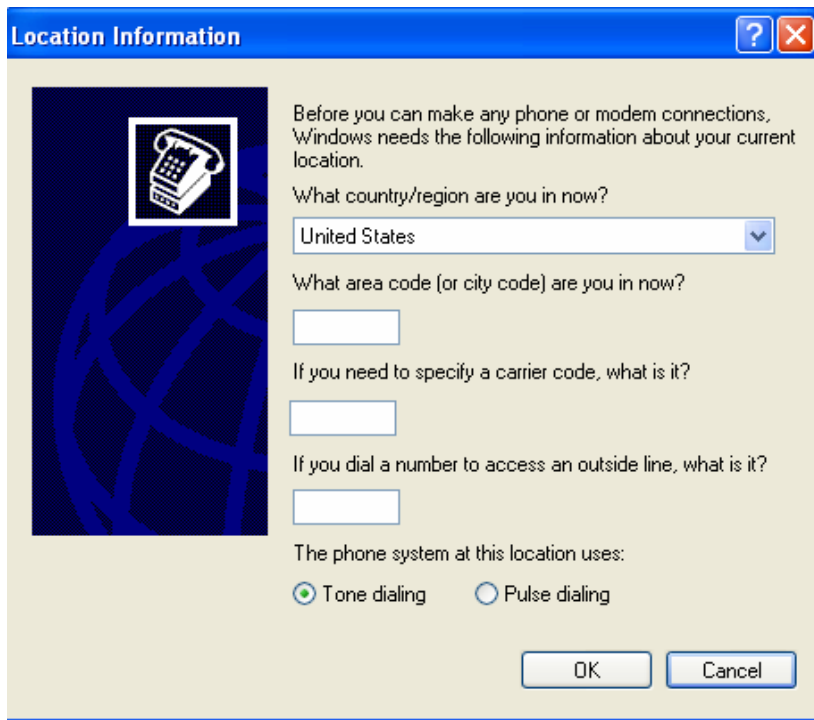
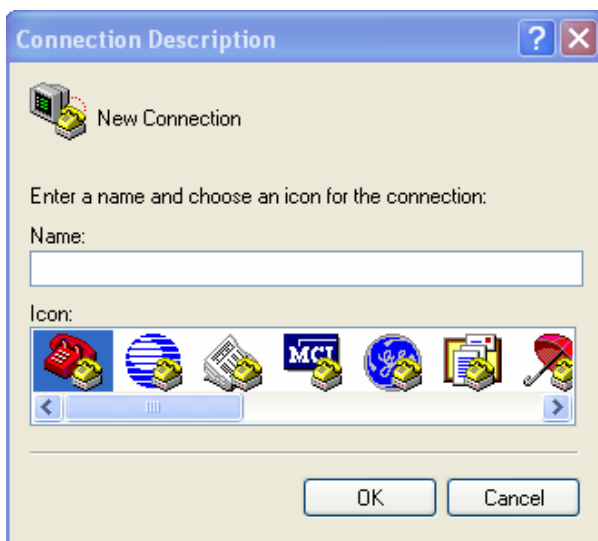

Fig1
Fig3
1) Enter into start----all programs----accessories-----communications----hyper terminal. Click hyper terminal, fig 1 will pop up. Click cancel and select yes in the pop up dialog. then enter into fig 3.